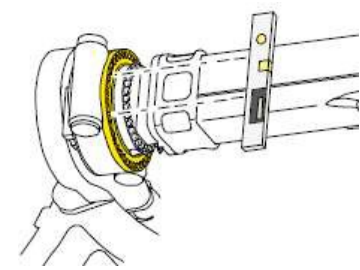

Fig. 3
- **Step 9.** Place the level/kliino on the rotary actuator as per fig. 3. Zero boom lift resolver first, then zero boom lift inclinometer sensor, by pressing the set to zero box as shown in fig. 4.